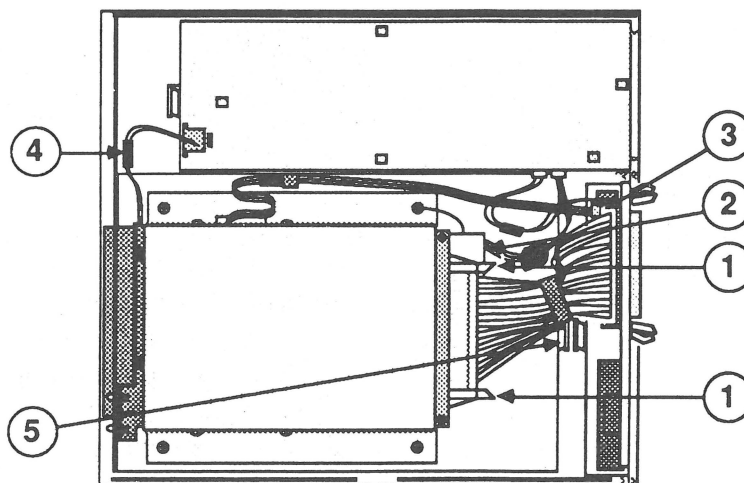

FIGURE 10
2. Open the end tabs on the SCSI device-to-case cable connector (Figure 10, #1), and disconnect the cable.
3. Disconnect the power supply cable (Figure 10, #2).
4. Disconnect the SCSI select switch cable (Figure 10, #3).
5. Disconnect the LED cable (Figure 10, #4).
6. Use a flatblade screwdriver to push back the holding tab (Figure 10, #5). Lift up the tape backup mechanism (and its baseplate) and then move the mechanism forward to free it.
2. Push back the holding tab (Figure 10, #5) and carefully settle the tape backup mechanism into place.
3. Connect the SCSI select switch cable (Figure 10, #3).
4. Connect the LED cable (Figure 10, #4).
5. Connect the power supply cable (Figure 10, #2).
6. Connect the SCSI device-to-case cable to the tape backup mechanism, and close the end tabs (Figure 10, #1).